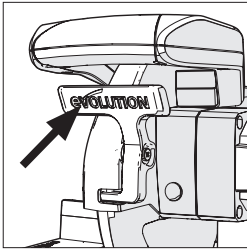

Fig. 18
- Press the lower guard locking lever to release the cutting head (**Fig. 18**).